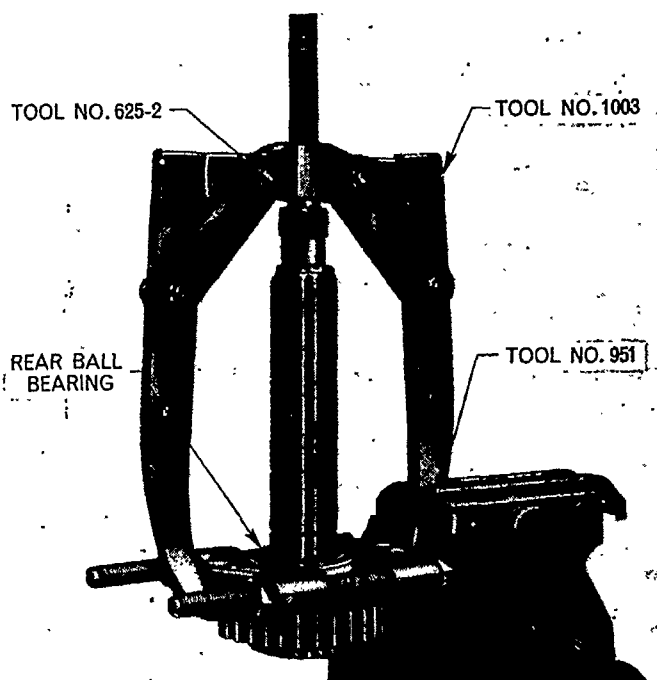

Figure 30
4. Examine the mainshaft rear ball bearing and if necessary, remove the two snap rings from the mainshaft and use Tools Nos. 1003, 951 and 625-2 to draw the bearing off, Figure 30.